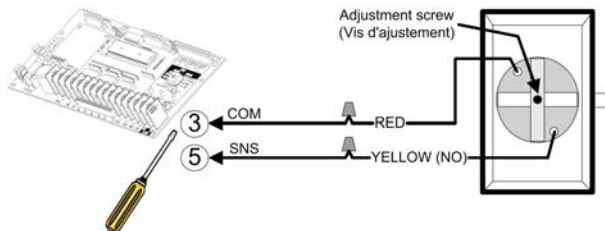
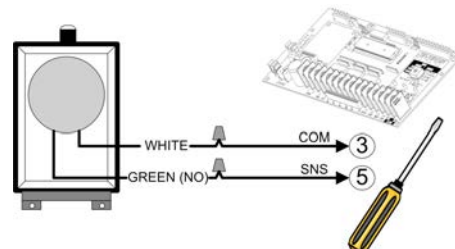

Figure 27 - AIRSWITCH 001 / 007
Figure 28 - AIRSWITCH 009
3. Use a coil cord or take-up reel to connect the air switch to the operator terminals. Install electric wires according to Figure 27 or Figure 28.